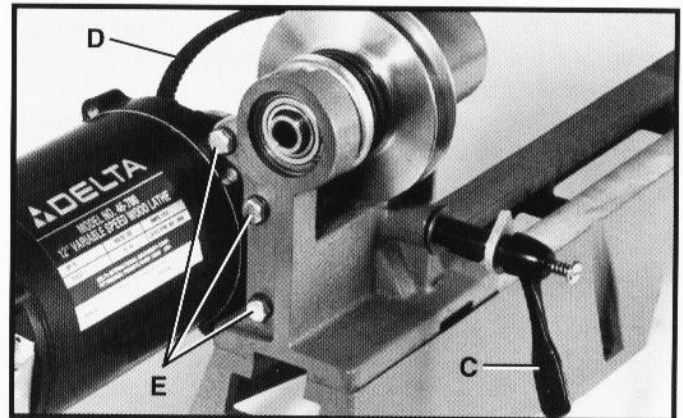

Fig. 95
5. Turn variable speed control handle (C) Fig. 95, counterclockwise to loosen tension on belt (D).
6. Remove three screws (E) Fig. 95. **CAUTION: CARE MUST BE TAKEN TO SUPPORT THE MOTOR WHEN REMOVING SCREWS (E) AS MOTOR BRACKET AND MOTOR WILL FALL FROM HEADSTOCK AND MOTOR PULLEY WILL SEPARATE.**